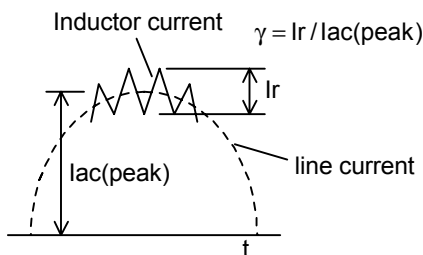

Fig.20 Outline of inductor and AC line current
- γ : Ratio of ripple content to peak input current. (Set to approx. 0.2, see Fig.20)